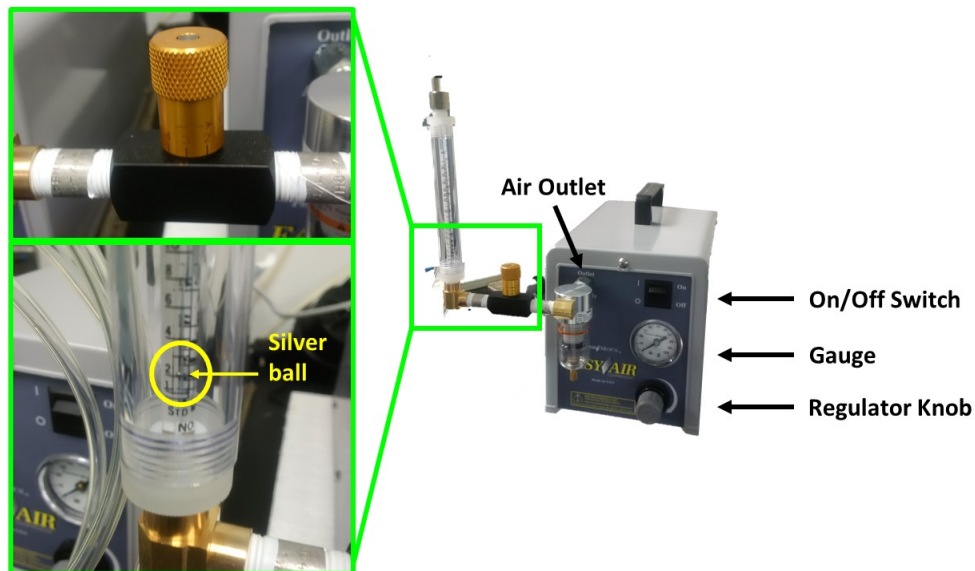

Figure 6. Adjusting the flow adjustment valve to lift the silver ball in the flowmeter to between settings 2 or 3.
5. Adjust the flow adjustment valve to the lowest setting possible to ensure that only the minimal flow of air passes into the flowmeter (**Figure 6**).